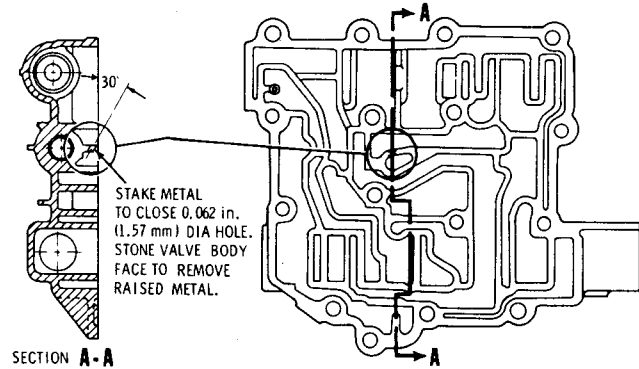

Fig. 6-4. Modification of valve body (clutch cutoff models)
(1) Check the valve body for the presence of a 0.062 inch (1.57 mm) hole (fig. 6-4). If the hole is present, stake it closed as illustrated in fig. 6-4. Be careful to remove all debris after staking. This modification will improve cooler oil flow and increase equipment performance.